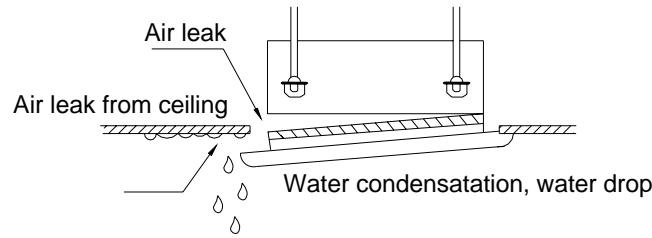

Fig.5
1. Improper screwing of the screws may cause the troubles shown in fig.5.